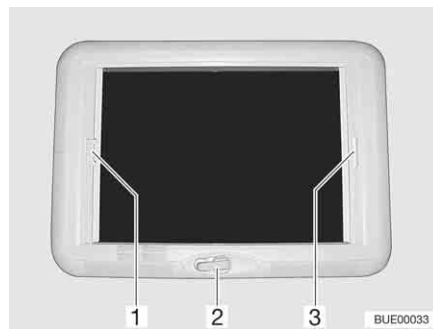

Fig. 93 Wind-up skylight
Opening: ■ Rotate the hand crank (Fig. 93,2) until a resistance can be felt.
Closing: ■ Pull the handle of the Roman shade (Fig. 93,3) and release in the desired position. The Roman shade will stay in that position.
- Pull insect screen at the handle (Fig. 93,1) to the opposite handle of the Roman shade (Fig. 93,3) and allow to engage.
- Press the handle of the insect screen (Fig. 93,1) at the back upwards and detach the insect screen from the Roman shade (Fig. 93,3).